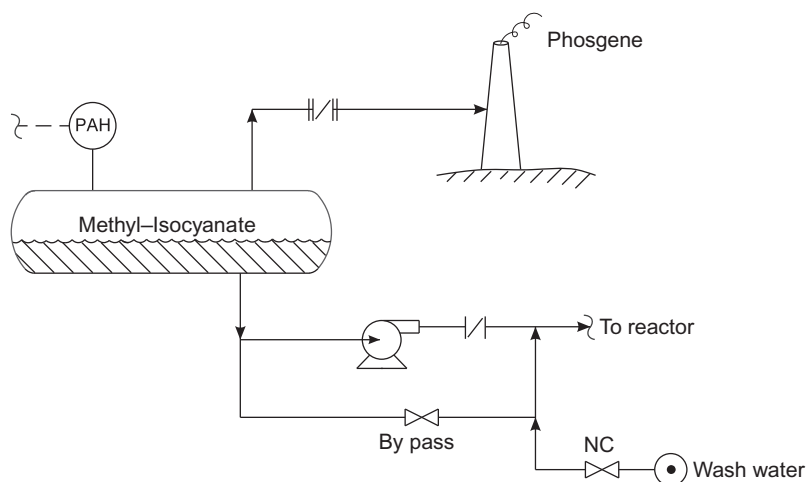

FIG. 46.5 Bhopal, India—10,000+ killed. Union Carbide.
The cause of this incident has been attributed to a faulty mechanical seal on the Methyl Isocyanate pump. The pump had been designed with a marginal available Net Positive Suction Head (NPSH), which caused persistent cavitation at the entrance to the pump impeller, which caused damage to the seal and frequent seal leaks (see Fig. 46.5).
- The bypass valve around the pump was opened (see Fig. 46.5).
At the Bhopal Plant, wash water (Fig. 46.5) was used periodically to flush out the feed line to the reactor. With the Methyl Isocyanate pump running, and the pump bypass valve shut, water could never flow back into the vessel.